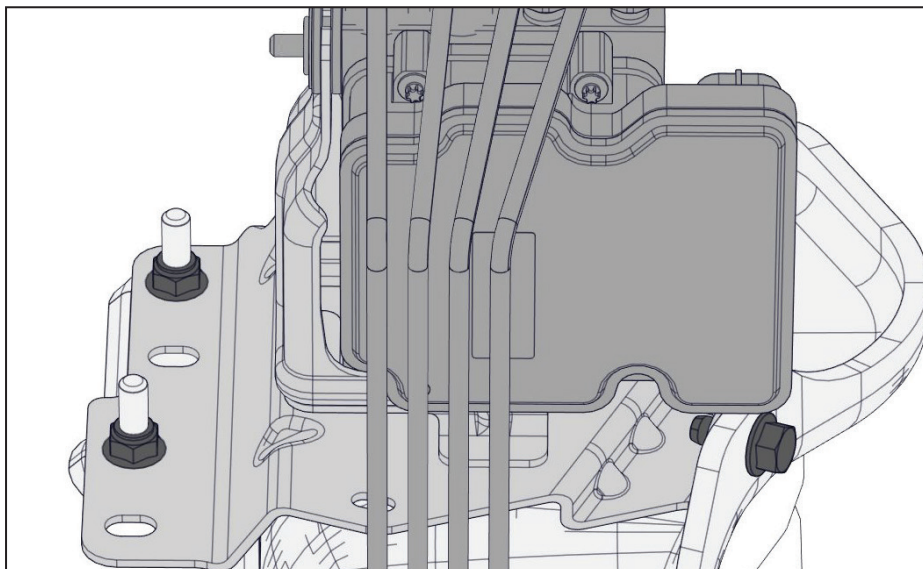

Figure 20 — Relocating the HCU
- ☐ Remove the bolt and (x2) nuts securing the HCU base bracket to the shock tower and set them aside. Remove the HCU base bracket (Figure 20).